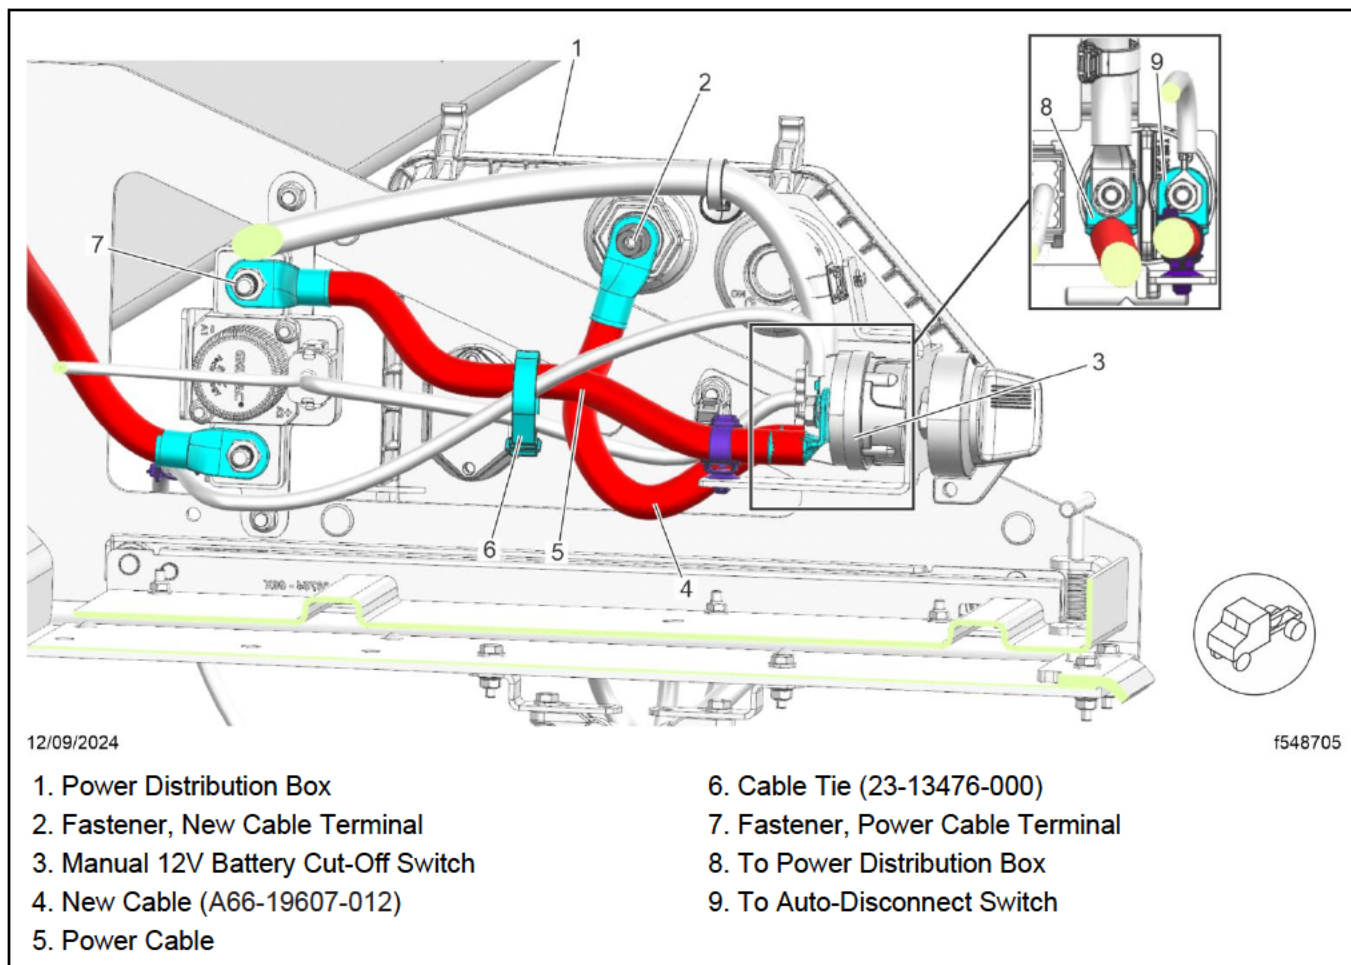

Fig. 7, Connecting the Power Cable and the New Cable
15. Connect the open end of the power cable (A66-19607-015) to the upper terminal on the ALVD switch, as shown in **Fig. 7**. Tighten the fastener 20 lbf-ft (27 N·m).
16. Connect the new cable (A66-19607-012) to the power distribution box, as shown in **Fig. 7**. Tighten the fastener 27 lbf-ft (37 N·m). Connect the other end of the cable to the open post on the manual battery cut-off switch. Do not tighten the fastener.
22. Use cable tie (23-13476-000), item 6 in Fig. 7, to secure all three cables.